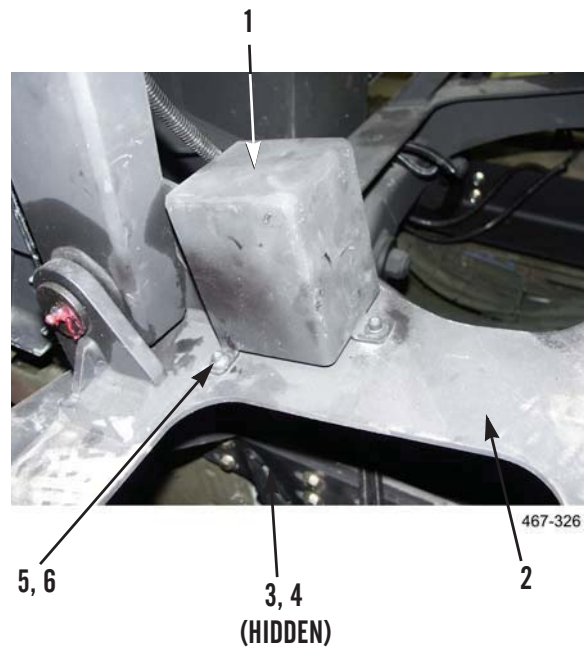

Figure 2. Sensor Cover Installation.
- Remove three bolts (Figure 2, Item 5), washers (Figure 2, Item 6), washers (Figure 2, Item 3), locknuts (Figure 2, Item 4), and sensor cover (Figure 2, Item 1) from stowage assembly (Figure 2, Item 2). Discard locknuts.